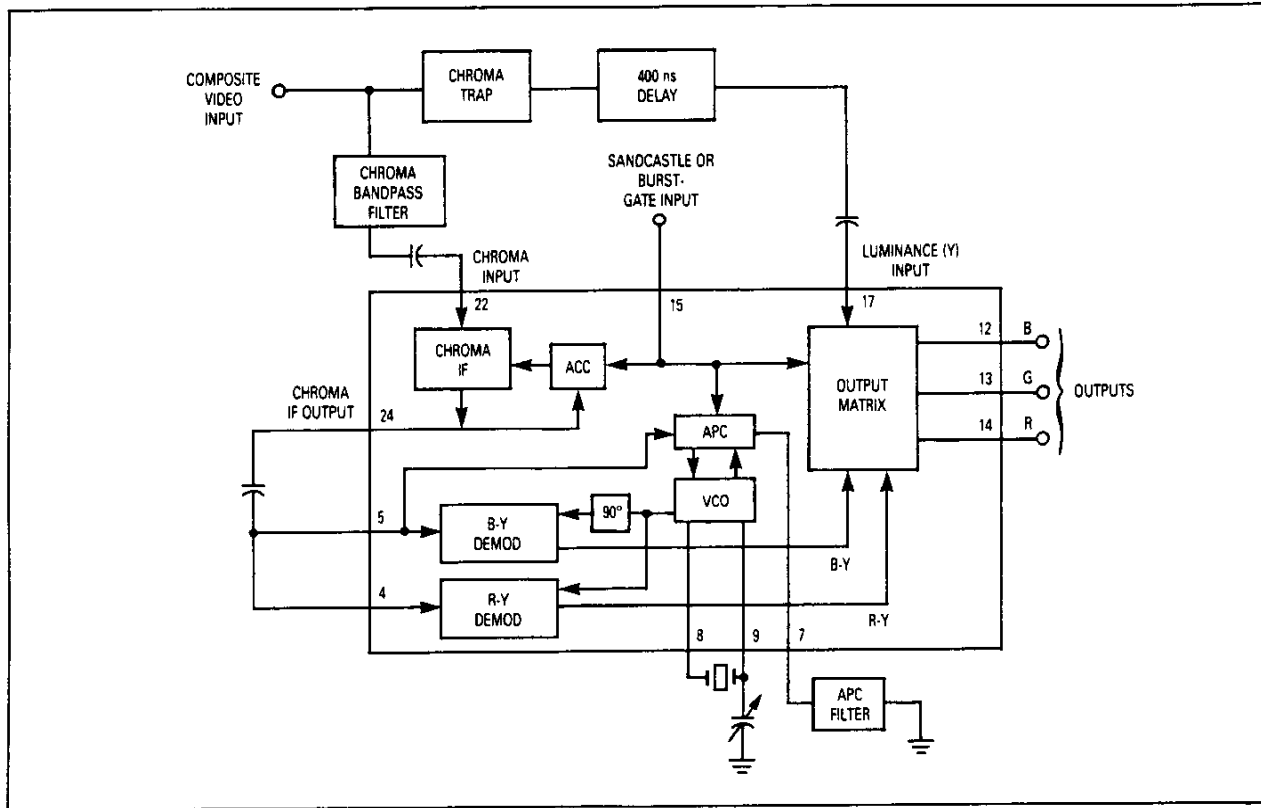

Figure 2. Simplified Block Diagram for NTSC Mode
3. Gating the color phase detector (APC) so that the VCO can be phase-locked to the burst. See the block diagram in Figure 2.